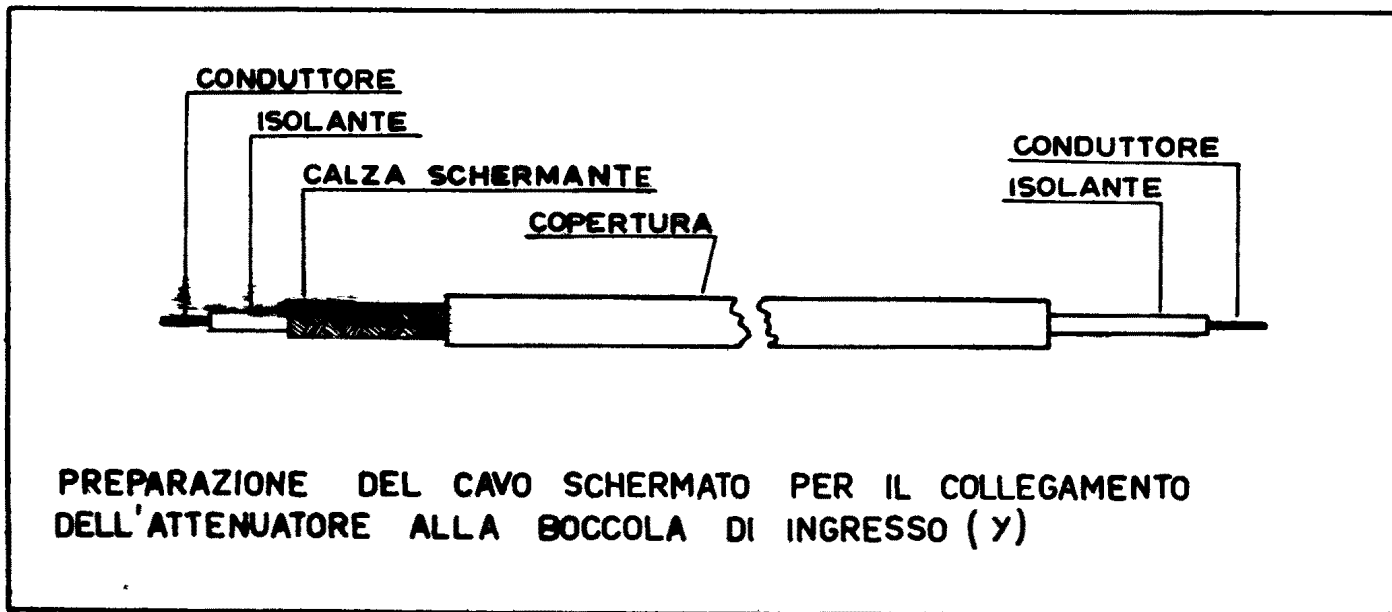

Fig. 14
1) - PREPARI UN PEZZO DI CAVO SCHERMATO, SECONDO LE INDICAZIONI DI FIG. 14, E COLLEGHI CON ESSO LA BOCCOLA ROSSA, POSTA SULLA SINISTRA DEL PANNELLO FRONTALE (Y), ALLA LINGUETTA DEL CA79.